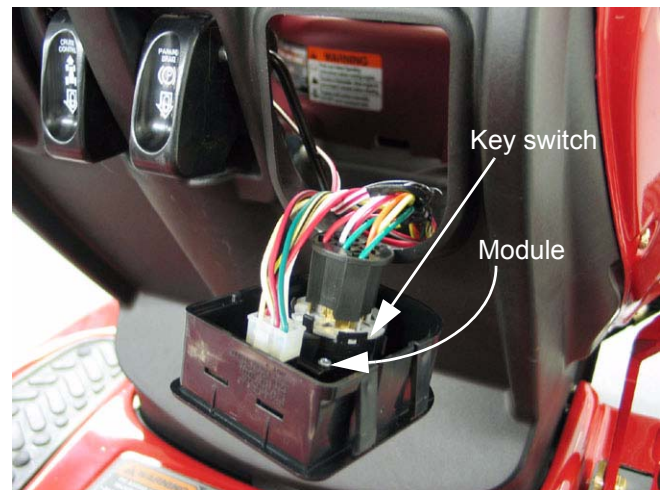

Figure 5.2
- 5.2. Squeeze the four tabs on the side of the housing that contains the RMS module and the key switch to pop it out of the dash panel. See Figure 5.2.